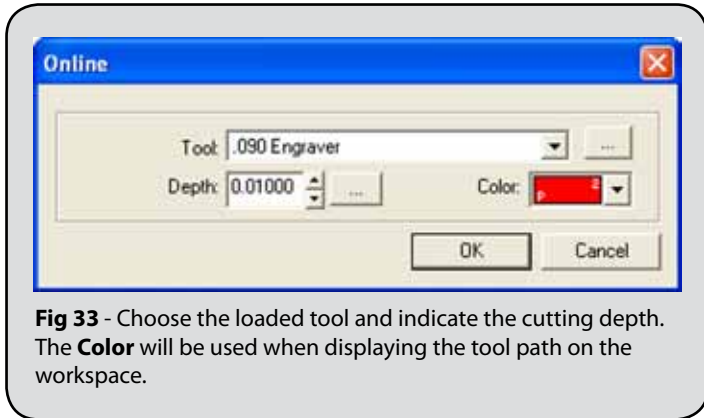

Fig 33 - Choose the loaded tool and indicate the cutting depth. The **Color** will be used when displaying the tool path on the workspace.
4. The **Online** dialog will open. For this example, a 0.005 1/4” Engraver was used, and the **Depth** was set to 0.01”. (Fig. 33)